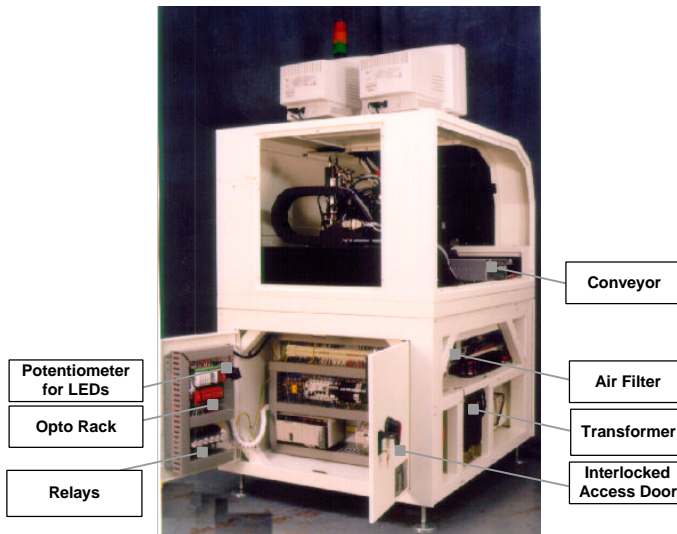

Figure 2.1 Rear End View
10. Depress the emergency stop 'Reset' button (See Figure 2.1).